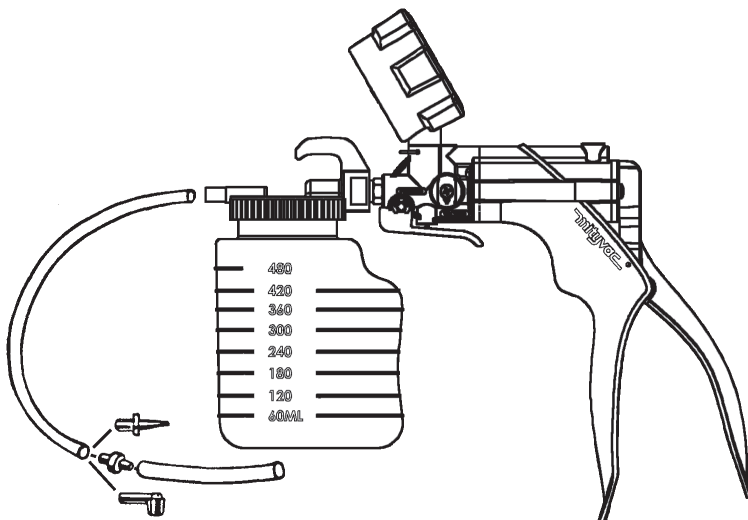

FIGURE 18: BRAKE BLEEDING KIT
3) Slip 1½" of tubing between the pump and the lid of reservoir jar at port marked "TO PUMP" (FIGURE 18).